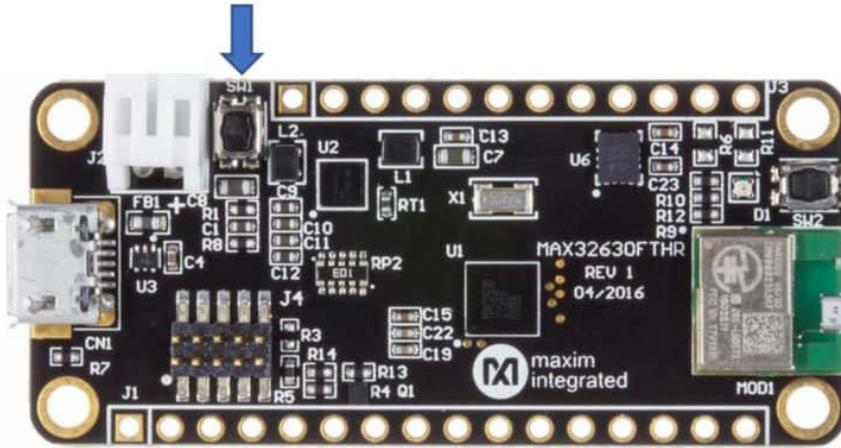

Figure 12. The reset button is SW1 on the MAX32630FTHR.
16. Press the reset (SW1) button on the MAX32630FTHR, as displayed in Figure 12.